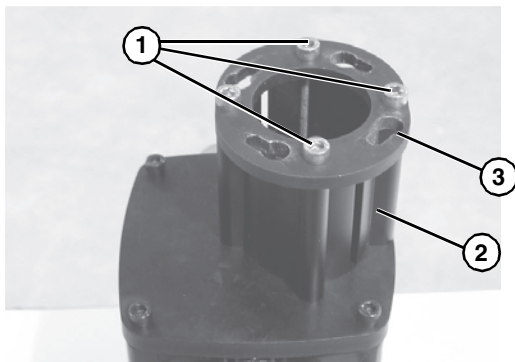

Figure 13
2. Remove four (4) screws (**Figure 13, item 1**) and detach gearmotor coupling guard (**Figure 13, item 2**) and mounting ring (**Figure 13, item 3**).
7. Install gearmotor coupling guard (**Figure 13, item 2**) and mounting ring (**Figure 13, item 3**) with four (4) screws (**Figure 13, item 1**) and tighten to 110 in-lbs (12 N-m).